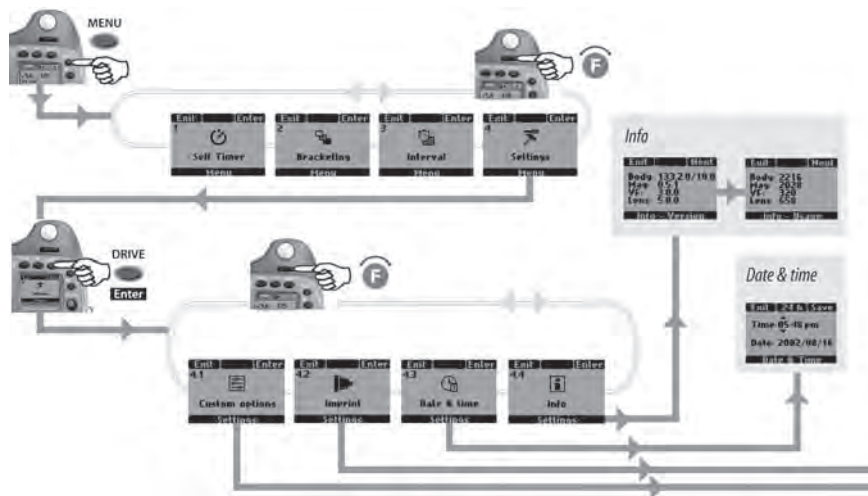

Figure 4-9 The operating procedure for imprinting.
4. Click ISO/WB (Drive) control, and turn the front wheel to access six options for imprint combinations (Figures 4-9 and 4-10):